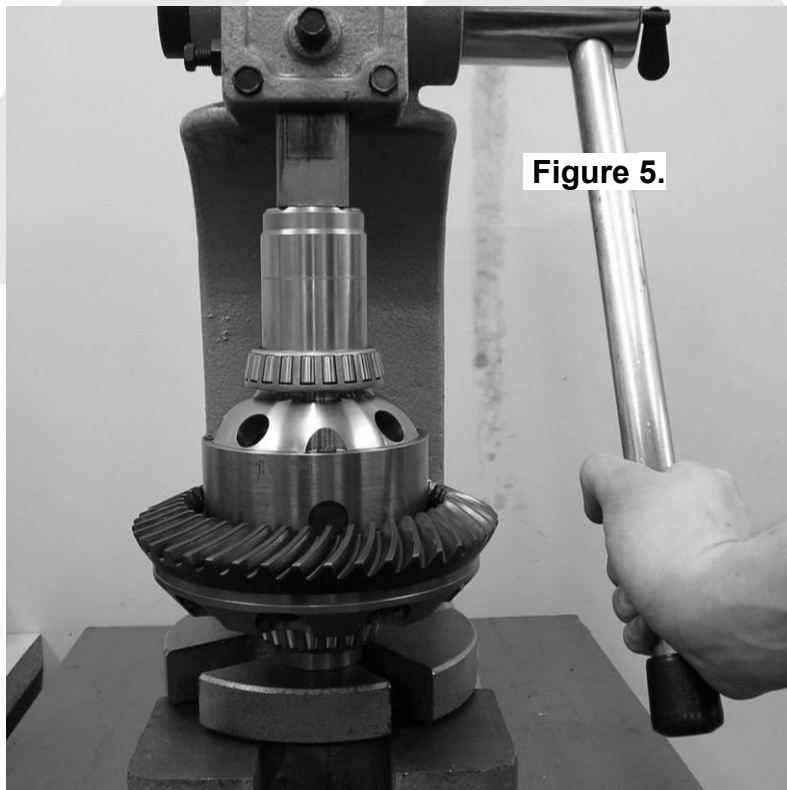

Figure 5.
- Apply a thin film of high pressure grease to the bearing journals of the *Air Locker*, then press the bearing cones onto the bearing journals as shown in figure 5.